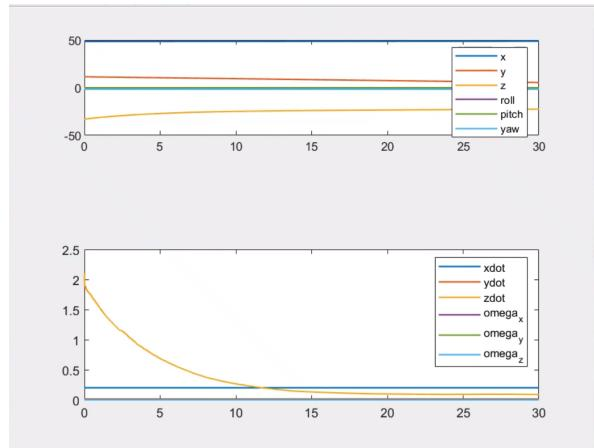

Figure 5: Resulted graph during the Minimum Altitude Vehicle task imposed 10m distance
- **10 m:** It seems no a reasonable value. The UVMS has initial position below this threshold, so it start floating to the surface very quickly (it is possible to notice this huge vertical velocity in the graph (Figure 5),  $\dot{z}$ ). Of course, the task is not accomplished because the target position is far from the threshold.